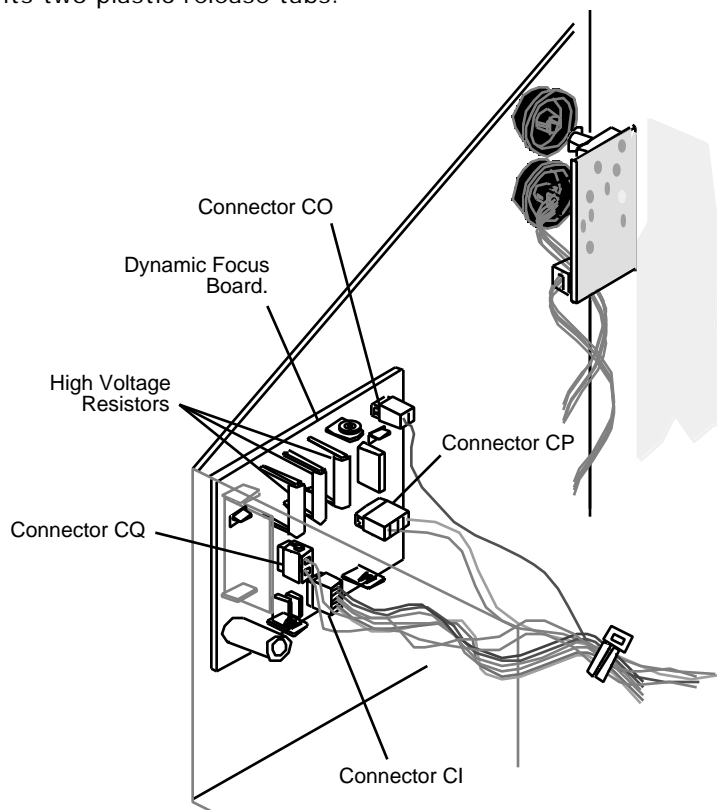

FIGURE 11
WARNING: When removing connectors from the dynamic focus board, be careful not to touch resistors R517, R518, or R520 (**Figure 11**). These are high-voltage resistors.
3. Disconnect the following connectors from the dynamic focus board (**Figure 11**) :